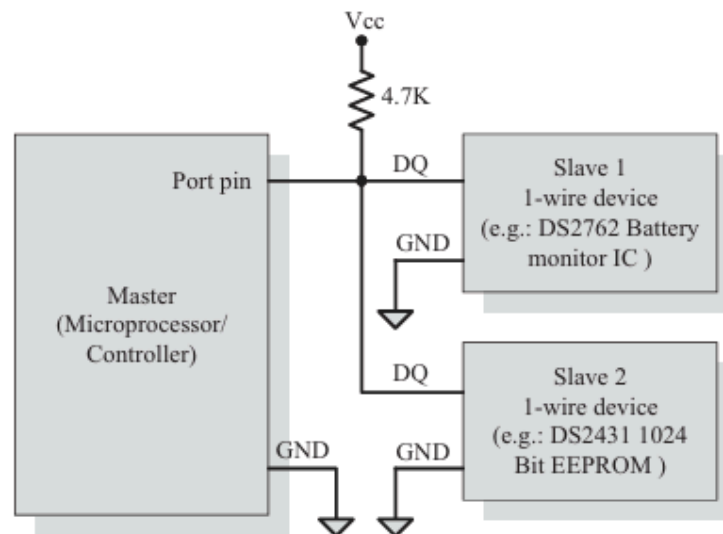

Fig. 2.29 1-Wire Interface bus
2.4.1.4 1-Wire Interface 1-wire interface is an asynchronous half-duplex communication protocol developed by Maxim Dallas Semiconductor (<http://www.maxim-ic.com>). It is also known as **Dallas 1-Wire® protocol**. It makes use of only a single signal line (wire) called DQ for communication and follows the master-slave communication model. One of the key feature of 1-wire bus is that it allows power to be sent along the signal wire as well. The 1-Wire slave devices incorporate internal capacitor (typically of the order of 800 pF) to power the device from the signal line. The 1-wire interface supports a single master and one or more slave devices on the bus. The bus interface diagram shown in Fig. 2.29 illustrates the connection of master and slave devices on the 1-wire bus.